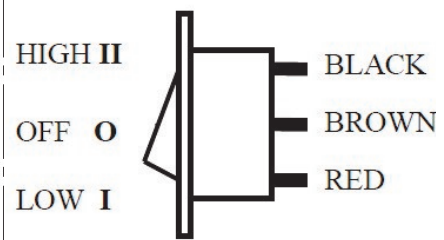

Figure 3. Fan switch
10. Ensure wires to be connected in Figure 3, and then press the switch into the rectangular knocked off rectangular hole, 'II' should be above '0'. It should snap firmly into place.
11. Ensure wires to be connected in Figure 3, and then press the switch into the knockout rectangular hole, 'II' should be above 'O'. It should snap firmly into place.